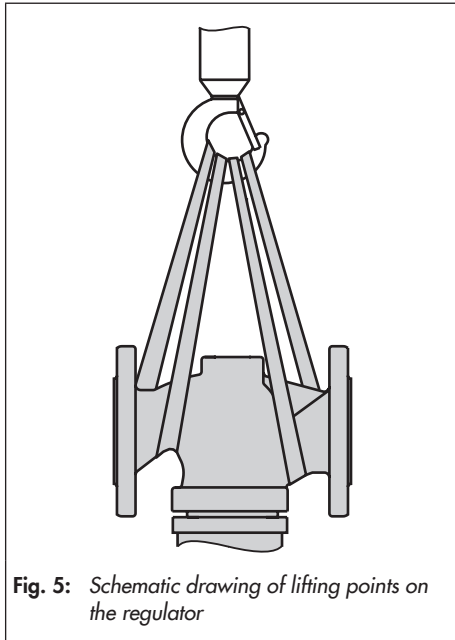

Fig. 5: Schematic drawing of lifting points on the regulator
1. Attach one sling to the flange of the body and to the rigging equipment (e.g. hook) of the crane or forklift (see Fig. 5).
We recommend using a hook with safety latch (see Fig. 5). The safety latch prevents the slings from slipping during lifting and transporting.